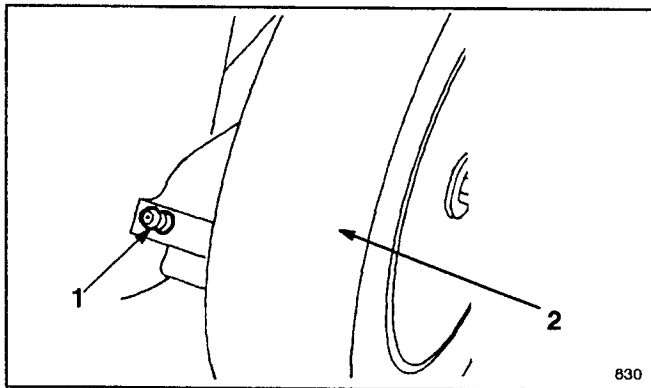

Figure 21
2. Move rear wheel height-of-cut levers to "2" setting. Wipe grease fittings with clean rag (Fig. 21). Install grease gun onto fitting and gently apply two or three pumps of #2 Multi-Purpose Lithium Base Grease.